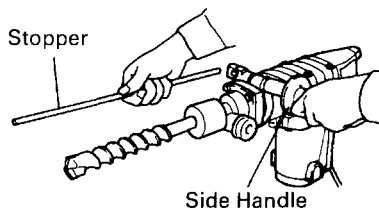

Fig. 8
4. Install the stopper (Fig. 8)